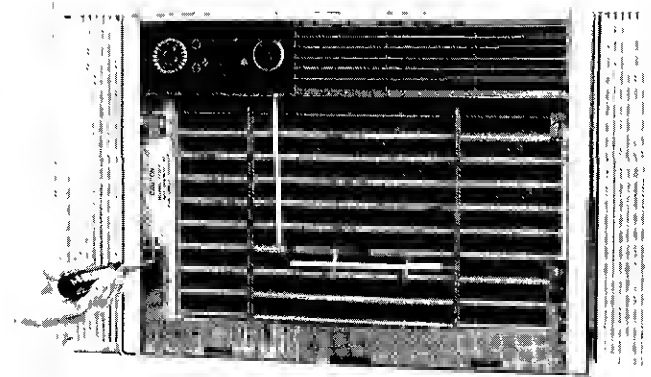

**Fig. 2 — Removing Grille Insert**
- 1 **Grille** — Decorative front grille insert is removed by gripping top of insert and pulling outward while lifting insert from grille frame. See Fig 2.